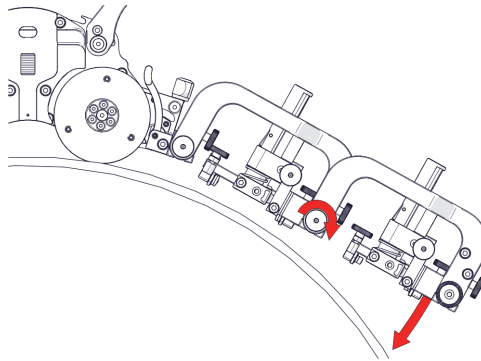
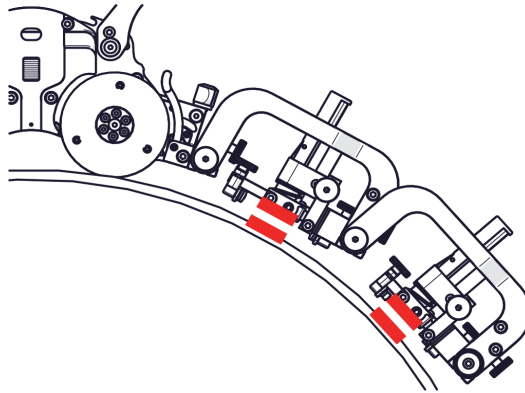

Figure 2-99 Set front rotational adjustment knob
Figure 2-100 Align probes with the scan surface tangent
6. Loosen the front rotational adjustment knob (see Figure 2-99 on page 112) to align the TOFD probe holders parallel with the scan surface (see Figure 2-100 on page 113).